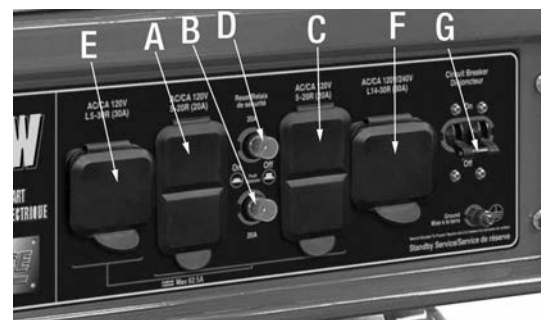

Figure 7
For normal 120V operation, plug your appliance or power bar into one of the two duplex 120V receptacles (A & C) Fig.7. Each receptacle has its own reset button (B & D) placed in between the receptacles.
This twist lock receptacle (E) Fig.7 is a NEMA L5-30 twist lock receptacle and requires a NEMA L5-30 plug to make the connection. If you are unsure about the use of this twist lock receptacle or how to wire the appropriate plug, contact a qualified electrician for more information.